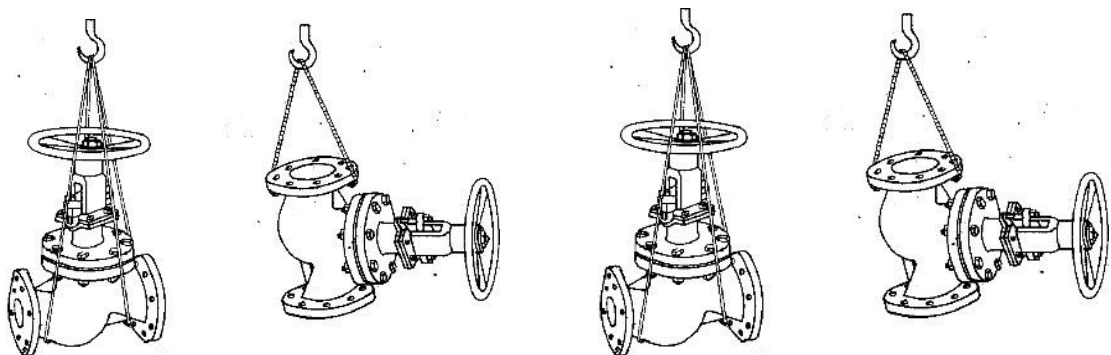

Fig.1 Ways of hosting the valves
- 3.21.5 Use two spanners to tighten the joint, in the sequence as shown in Figure 1.